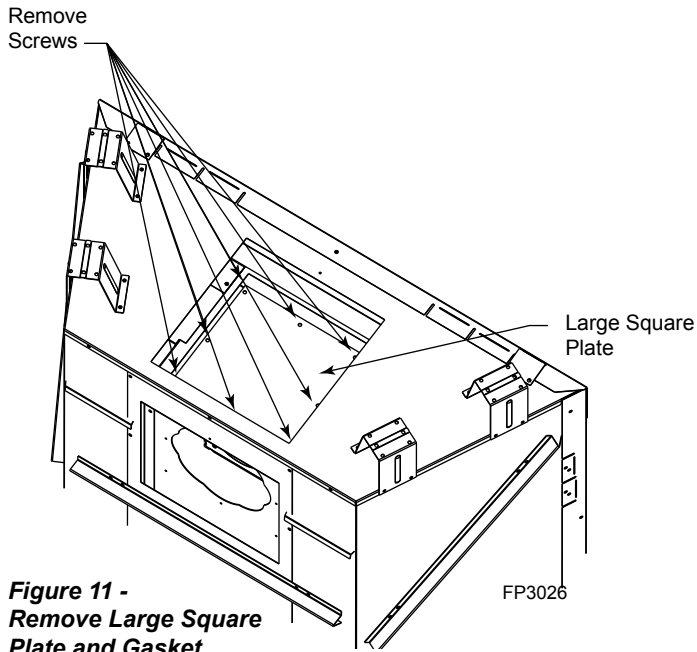

Figure 11 - Remove Large Square Plate and Gasket
- 6. Remove the large square plate and gasket by removing the eight (8) screws. Set aside. *Figure 11*